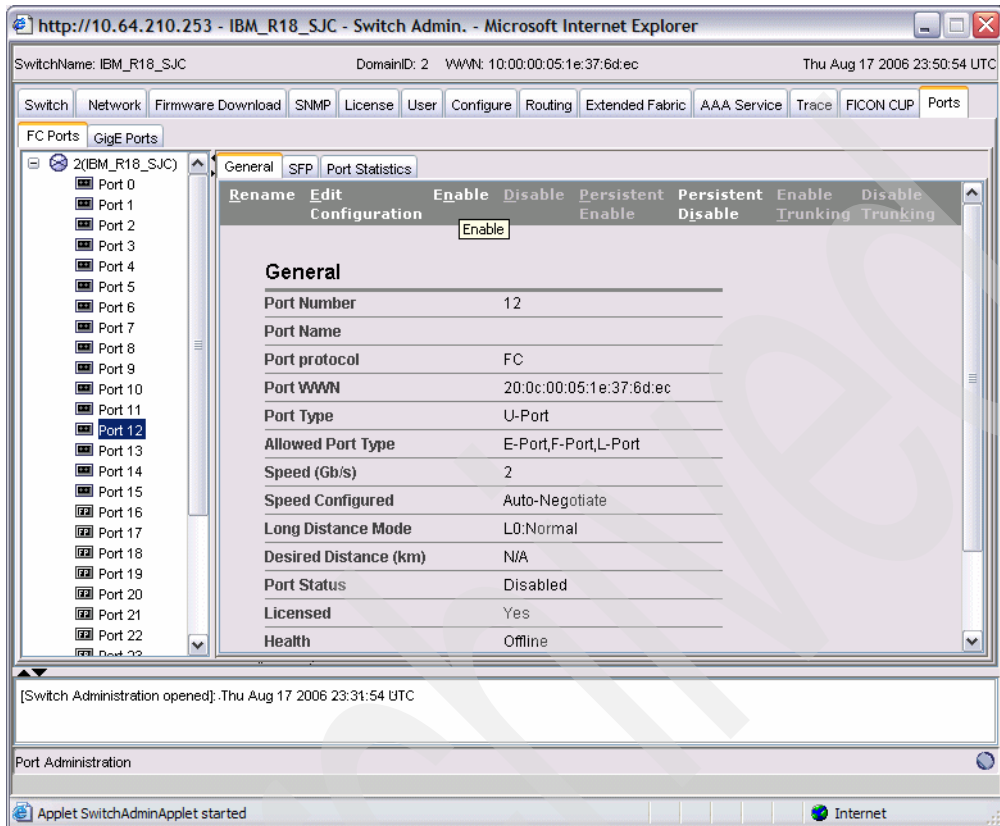

Figure 6-80 Edit Configuration Port 12
- Next, we set the port type to EX\_Port. Click **Edit Configuration**, as shown in Figure 6-80. The FC Port Configuration wizard opens.